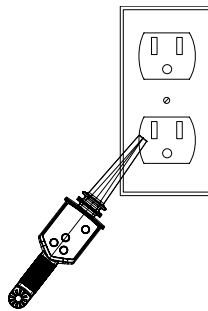

Fig. 4
**Check Outlets and Switches (See Figs. 4 & 5)**